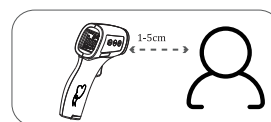

Figure 3- Align behind the ears to measurement
- If for some reason the low forehead temperature measurement can try to align behind the ears. See figure 3.